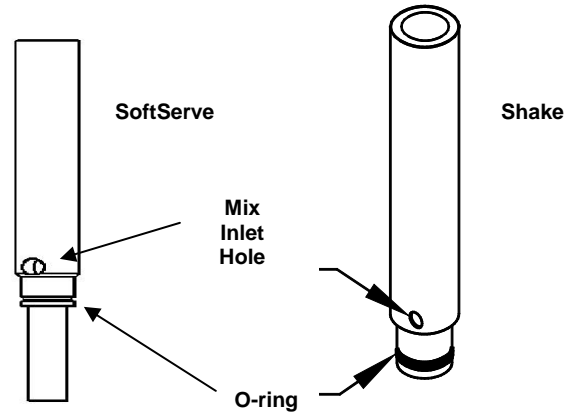

Fig. 22 Carburetor Tube
4. Install the o-ring on the carburetor tube (Fig. 22). Apply lubricant sparingly over the o-ring. Install the insert tube in the housing tube with a gentle twisting motion. Place the carburetor tube in the bottom of the mix pan for sanitizing.